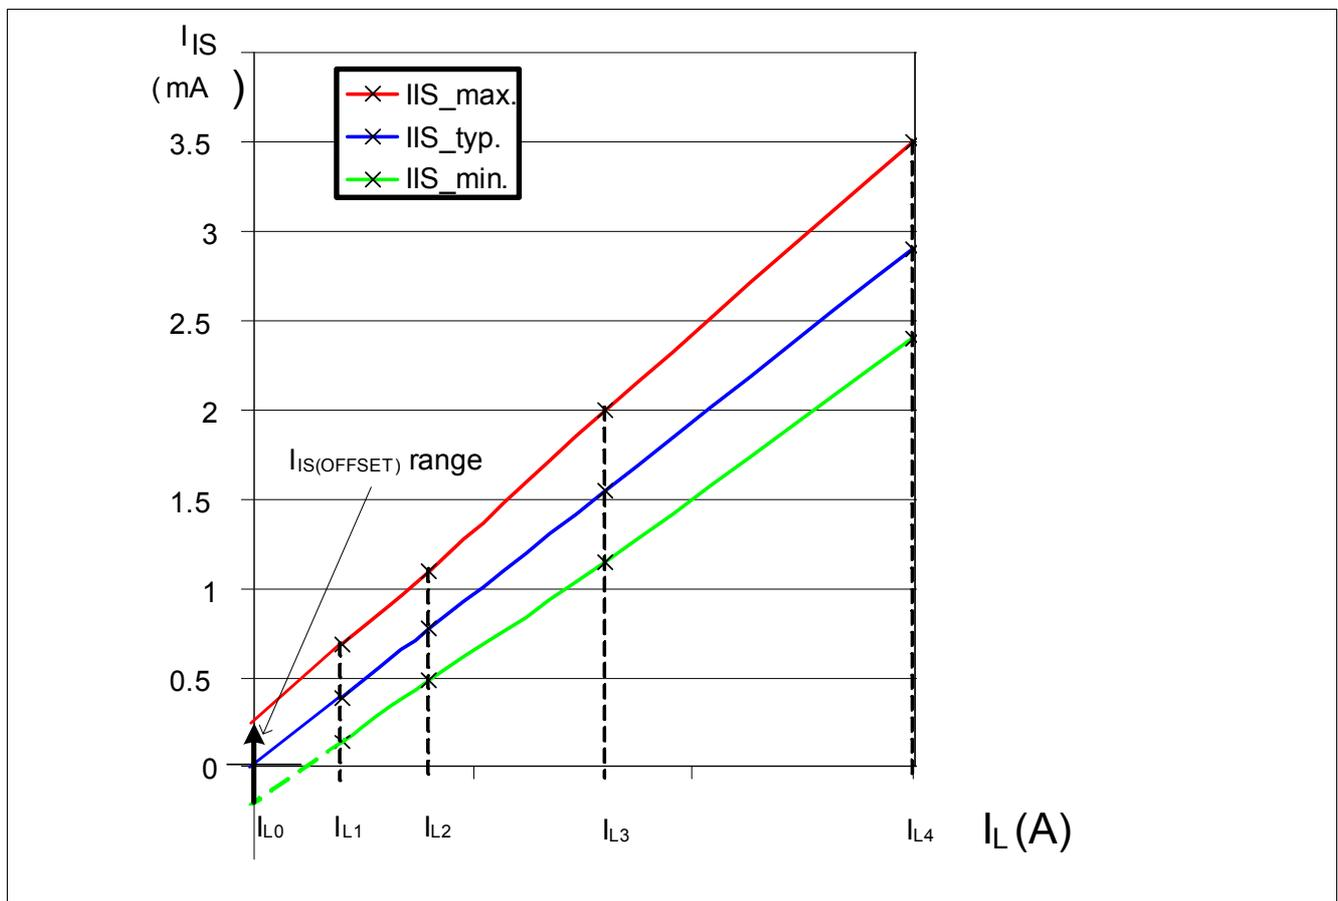
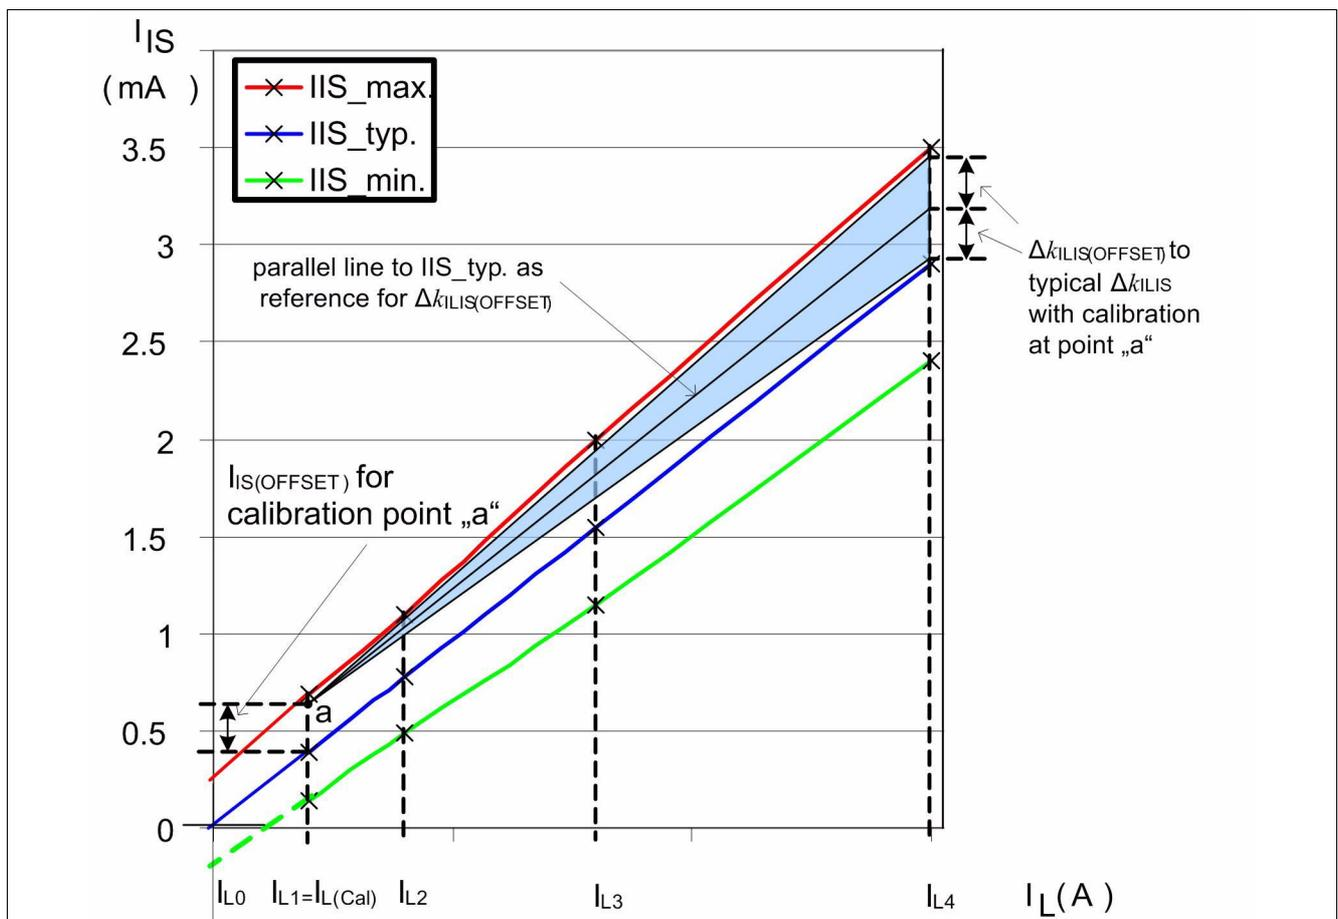

Figure 24 Current Sense for Nominal and Overload Condition
Figure 25 Improved Current Sense Accuracy with One Point Calibration for Nominal and Overload
Figure 24 and Figure 25 show the current sense as function of the load current in the power DMOS. Usually, a pull-down resistor R_{IS} is connected to the current sense pin IS. A typical value is $1k\Omega$. The blue curve represents the typical sense current, assuming an typical Δk_{ILIS} factor value. The range between the red and green curves shows the sense accuracy the device is able to provide, at a defined current.
In some application, an enhanced accuracy is required around the device nominal current range $I_{L(NOM)}$. To achieve this accuracy requirement, a calibration on the application is possible. With only one calibration point at a given point (e.g. at $I_{L1}=20A$; $T_J=25^\circ C$), the BTS50015-1TAA will still have a limited I_{IS} value spread at different load current and temperature condition. This sense current spreading is described by the parameter $\Delta k_{ILIS(OFFSET)}$ (Equation (5)). Figure 25 shows the behavior of the sense current, assuming one calibration point at $I_L=I_{L(CAL)}$
(point (a) in **Figure 25**) and $T_J = 25^\circ\text{C}$. I_{IS} represents the sense current at load current I_L . $\Delta k_{ILIS(OFFSET)}$ represents the derating of the Δk_{ILIS} over temperature and supply voltage range.